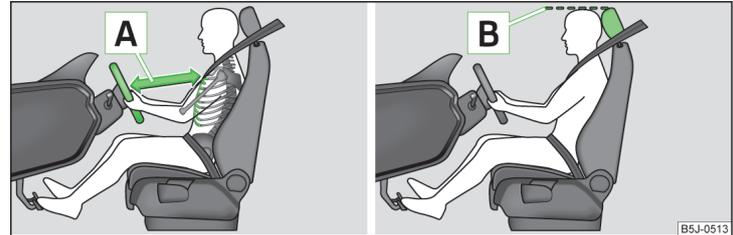

Fig. 1 The correct distance of the driver to the steering wheel/correctly adjusted head restraint
- ✓ Adjust the steering wheel so that the distance **A** between the steering wheel and your chest is at least 25 cm » Fig. 1. Adjusting the steering wheel » page 8, *Adjusting the steering wheel position*.
- ✓ Adjust the head restraint such that the top edge of the head restraint is at the same level as the upper part of your head **B** » Fig. 1 on page 7 » page 7.
- ✓ Adjust the head restraint such that the top edge of the head restraint is at the same level as the upper part of the head  » Fig. 1 on page 7 » page 7.